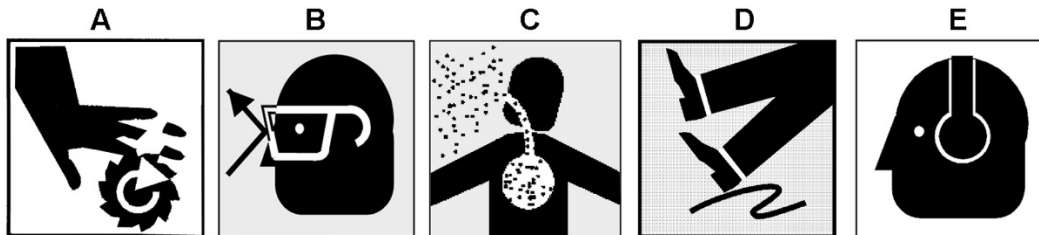

Figure 1-1
6. Leather safety gloves should be used when handling any sharp objects or cutting tools. See A, Figure 1-1.
7. Always wear protective eye wear when operating, servicing or adjusting machinery. Eyewear shall be impact resistant, protective safety glasses with side shields complying with ANSI Z87.1 specifications. Use of eye wear which does not comply with ANSI Z87.1 specifications could result in severe injury from breakage of eye protection. B, Figure 1-1.
8. When drilling in material which causes dust, a dust mask shall be worn. See C, Figure 1-1.
10. Non-slip footwear and safety shoes are recommended. See D, Figure 1-1.
11. Wear ear protectors (plugs or muffs) during extended periods of operation. See E, Figure 1-1.